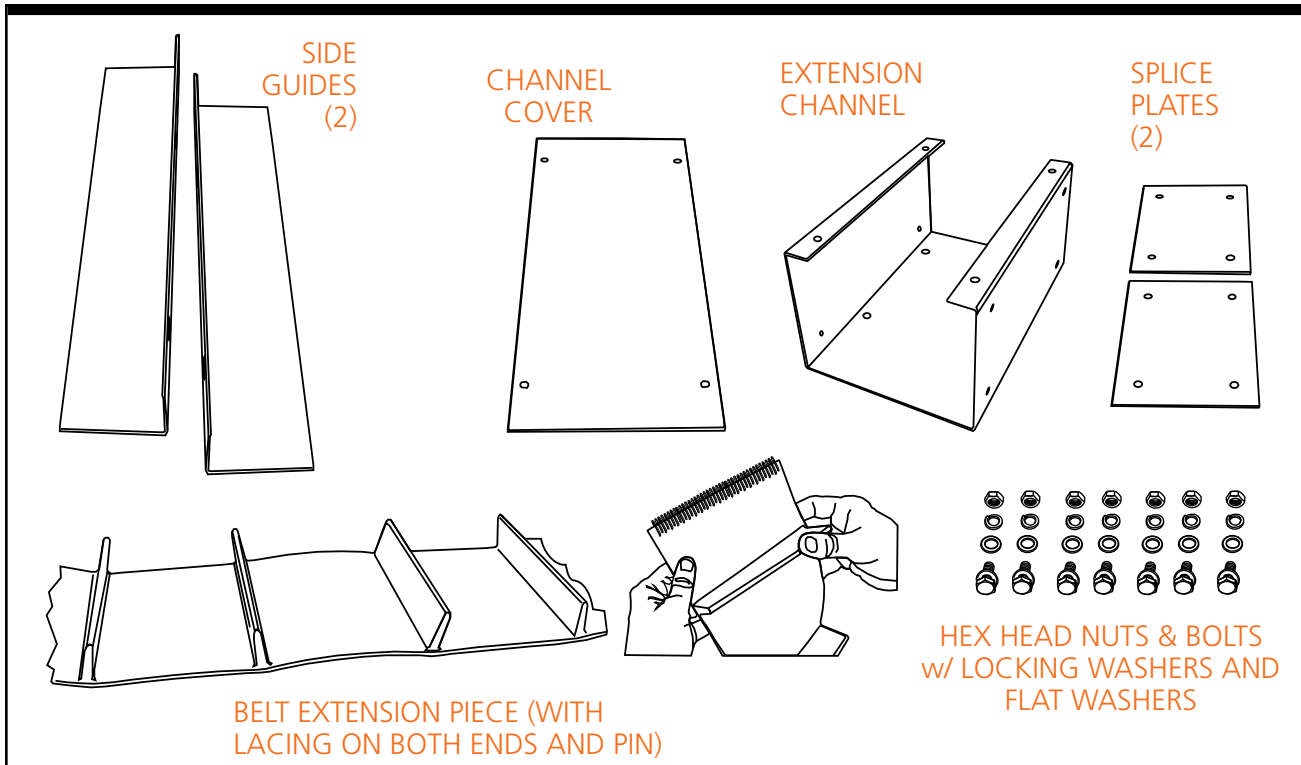

Figure 3-7. Extension Kit for Prefeeder Extension
Step 5—Inventory the Elevator Extension Kit. The extension kit will include the following: Channel Extension (1), Side Guide Extension (2), Splice Plates (2), Channel Cover (1), associated hardware, and Belt Extension (see Figure 3-7 above).
Step 6—Install Extension. Attach the splice plates to the extension channel (inside), hand-tightening the bolts prior to installing the extension on the prefeeder. Then lift the extension up slide it onto the prefeeder neck, securing it with hand-tightened hex head bolts (2). Before tightening the bolts, align the seams of the existing channel and the new extension as closely as possible. Tighten the extension channel bolts and splice plate bolts at this time.
Replace the left hand and right hand exit guides (removed in Step 4) and align the new side guide extensions along the channel, using the holes provided in the channel. Once aligned, attach with the new hardware (Figure 3-7).